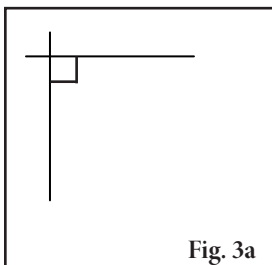
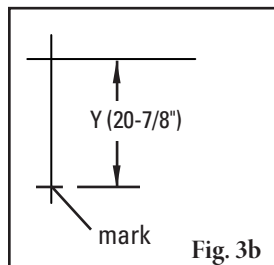
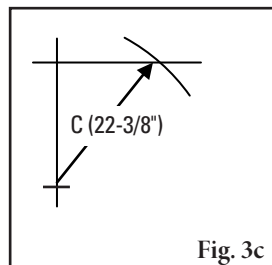

Fig. 3a
Fig. 3b
Fig. 3c
3. **Determine final dimension.** On a flat vertical surface, using a level, draw one horizontal line and one vertical line creating a right triangle (Fig 3a). Measure down from the intersection the determined "Y" dimension and mark (Fig 3b). With the tape measure starting at the modified "Y" mark, swing the tape across the "X" line and mark at the "C" dimension where it crosses the "X" line (Fig 3c). Measure from the intersection to the "C" intersection and this will be your new "X" dimension (Fig 3d).